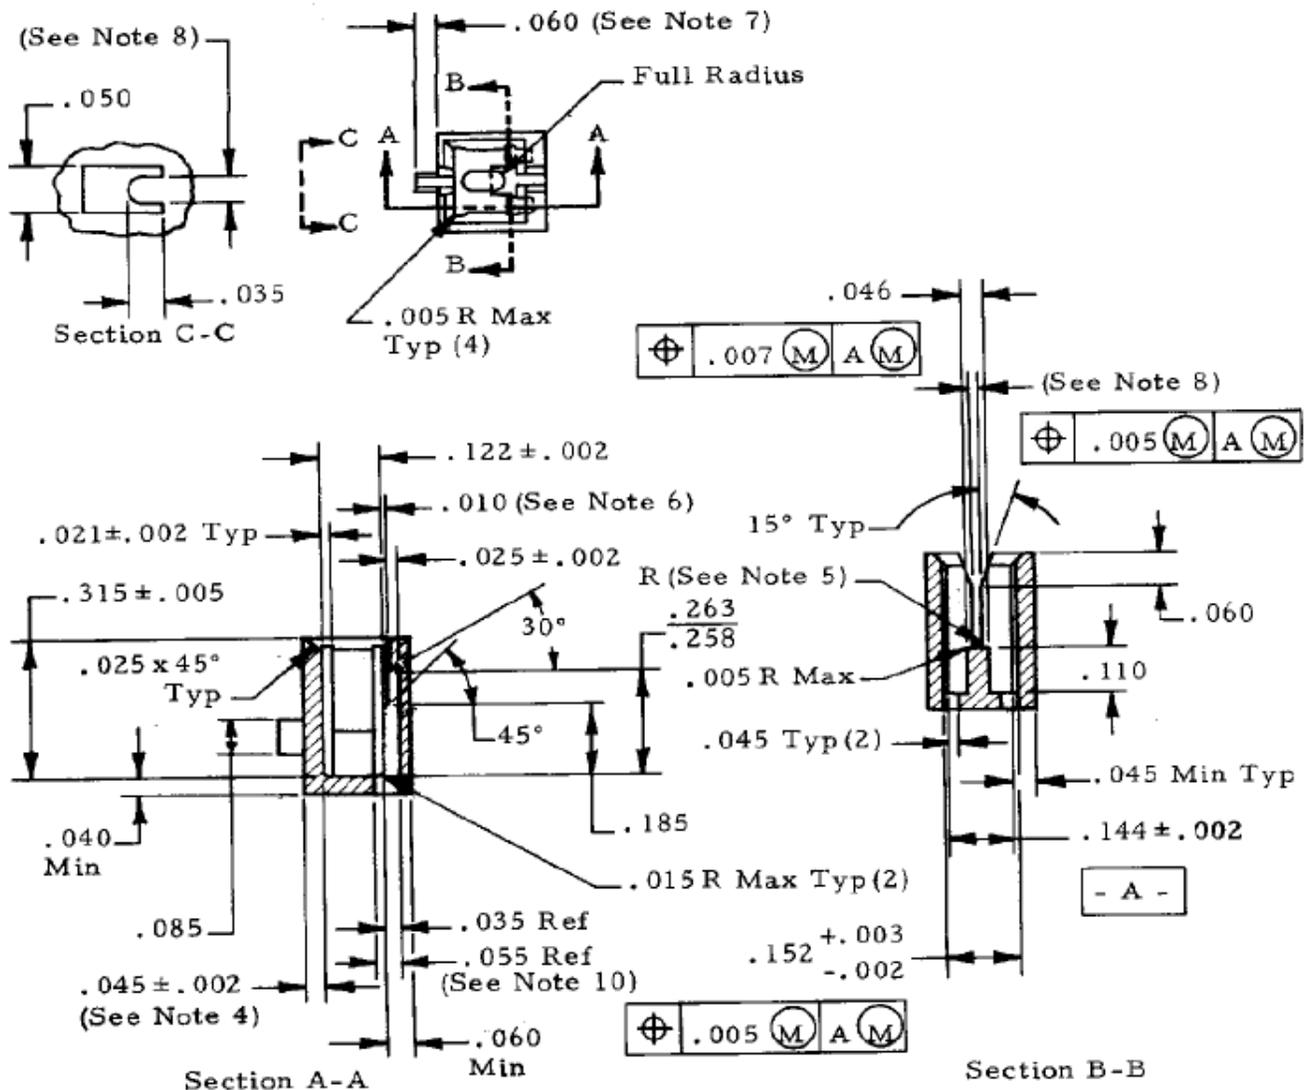
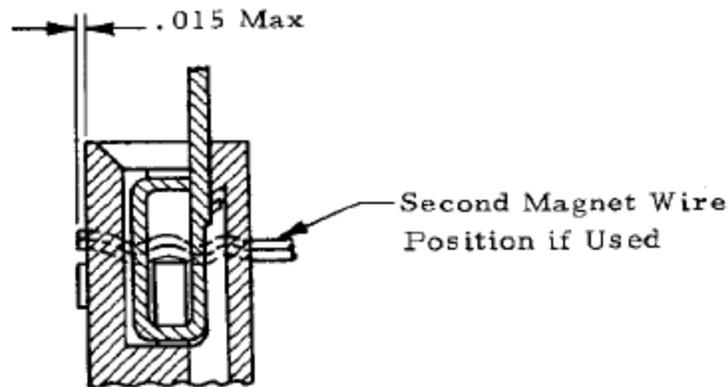

Figure 2
Figure 7
Cavity option 1 is a straight thru slot which leaves the trimmed end of the magnet wire exposed and may be used in applications where isolation of the conductor end is not required. See Figure 2.
Same as Figure 2, except wire-tuck feature added.
Same as Figure 2, except locking latch pockets provided thru side of cavity wall rather than bottom of cavity.
1. Magnet wire shall contact the top of the cavity anvil as indicated in Figure 7 when terminal is inserted into cavity design option 1 (see Figure 2).